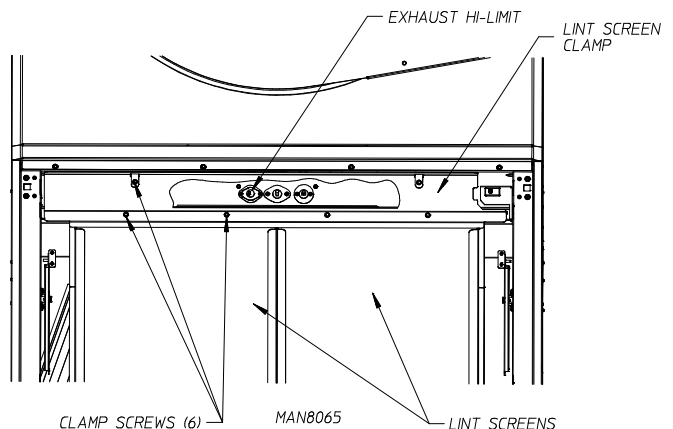

FIGURE 6
NOTE: To remove the lint screens from the dryer, open the lint door. Located just above the lint screen is a clamp retained by six screws (refer to figure 6). Use a 5/16" (8 mm) wrench to remove the six screws and the clamp. The lint screens are mounted in a track. Slide the lint screens out of the track.
To reset the exhaust hi-limit, disconnect the power and open the lint door. Remove the lint screen clamp (6) screws (refer to figure 6). Above the lint trap and in the duct below the tumbler are three sensors. The flat one on the far left is the hi-limit Thermostat. Remove the two screws securing the thermostat and remove it. Push the red button in the center to reset. Replace the thermostat. Replace the lint screen clamp. Close the lint door. Restore the power.